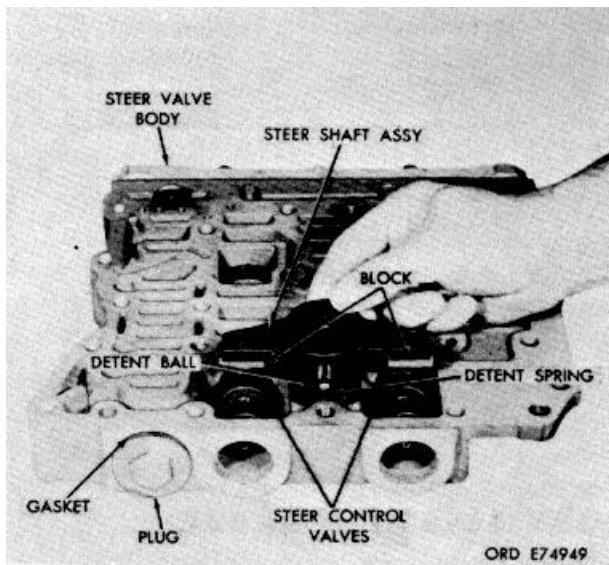

Figure 7-58. Removing (or installing) steer shaft assembly.
- c. Remove steer shaft assembly, blocks, detent ball and spring from steer valve body (fig. 7-58)